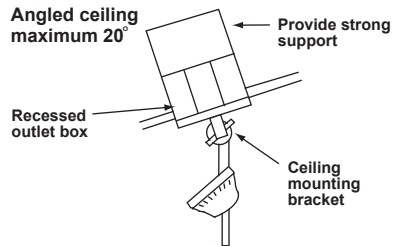

Fig.3
**Note:** You may need a longer downrod to maintain proper blade clearance when installing on a steep, sloped ceiling. (Fig.3)